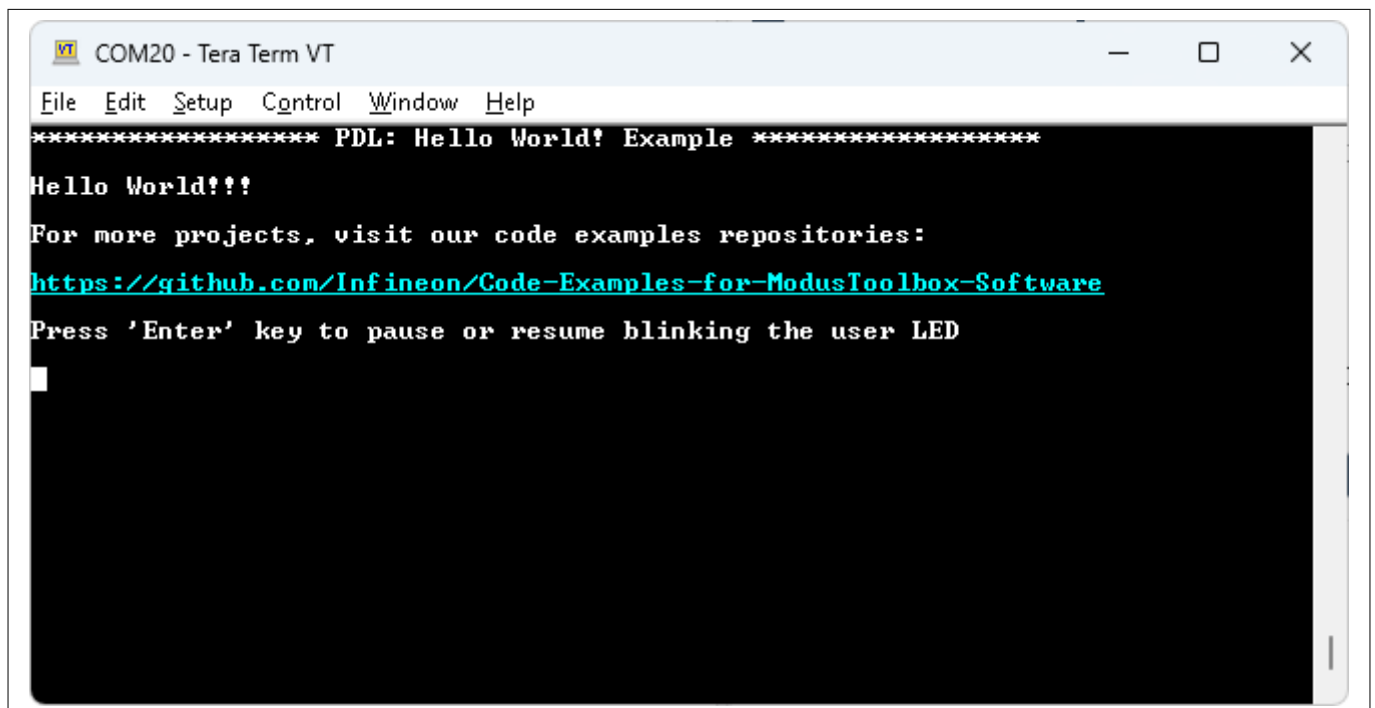

Figure 3 Serial terminal boot message
5. Press the XRES button (SW1) on the board and confirm that the serial terminal application displays the boot-up message, as shown in Figure 3